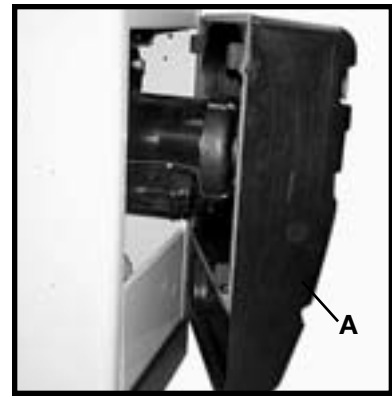

Fig. 31
Place the motor cover (A) in the opening of the Unisaw as shown in Fig. 31. Place the rear motor cover clips inside the motor opening and push the front of the motor cover until all 4 motor cover clips are engaged with the motor cover opening in the Unisaw.